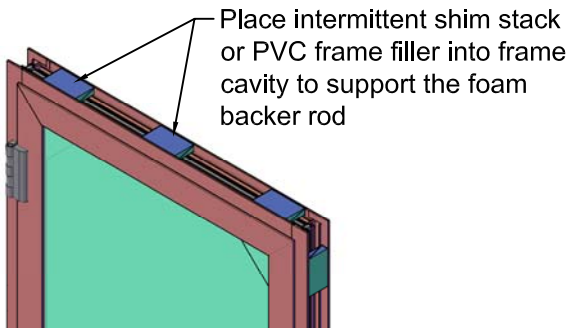

Fig. 1
1) Place intermittent shim packs or PVC Frame Filler into the window frame cavity. This will act as support for the sealant backer rod later. See Fig. 1